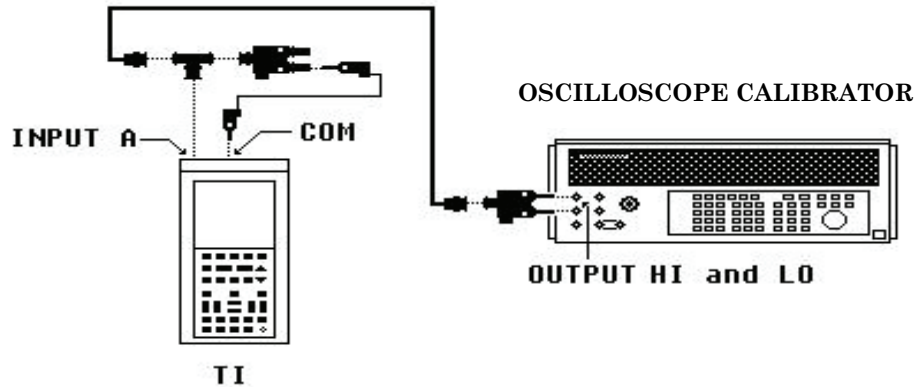

Figure 5. Meter dc voltage.
- (1) Connect equipment as shown in figure 5 below: